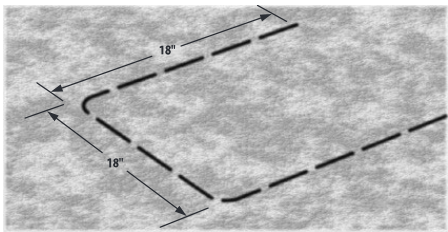
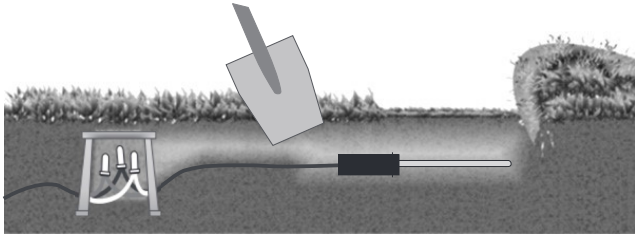

Figure 3
Figure 4
4. Using a flat bladed shovel, define three sides of a square 18" wide by 18" in length and 6" deep. This slit should be U shaped (see figure 3). Work the shovel under the sod at a depth of about 4 inches and roll back the sod leaving exposed soil 3 to 4 inches deep. About 6 inches from one side of this opening, dig a similar opening and hole to accommodate a 7" valve box. This valve box (wiring box) will be used to splice additional wire from the sensor to the zone wire identified in Step 3. Dig a slit trench from the 7" wiring box location to the base of the 18" square opening created for the sensor (see Figure 4).